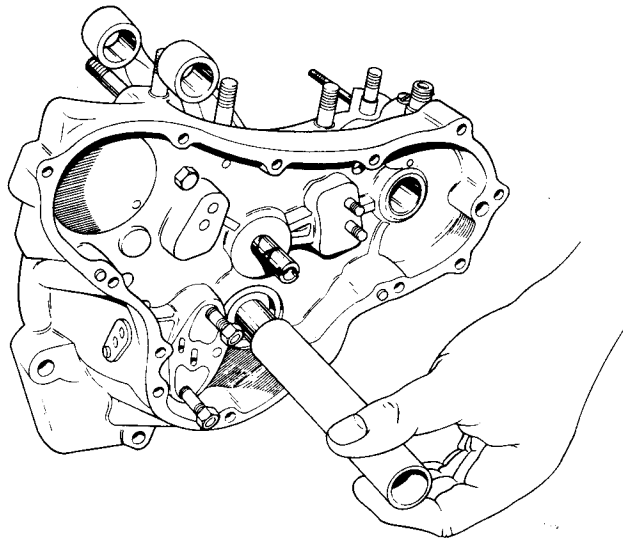

Fig. C26 Showing suitable tube to abutt to crankshaft shoulder yet pass through crankcase
- 22 Part the timing side crankcase from the crankshaft. This practice is preferred to removal of the crankshaft from the crankcase. Removal is accomplished without striking the end of the crankshaft by the use of a tubular drift driven against the crankshaft shoulder. *Fig. C26* illustrates a suitable tube fitted over the crankshaft, the tube standing on the bench and a hammer driving a lump of soft wood against the crankcase facing, permitting this to be jarred free of the crankshaft. If removal should prove difficult by this means, the crankcase in the area surrounding the main bearing should be heated by a soft flame and the same removal procedure followed so that the main bearing and crankshaft together are displaced from the crankcase. The bearing can then be removed at a later stage. On engines after number 200000 a roller timing side bearing is used and on such units there should be no difficulty in crankshaft removal.